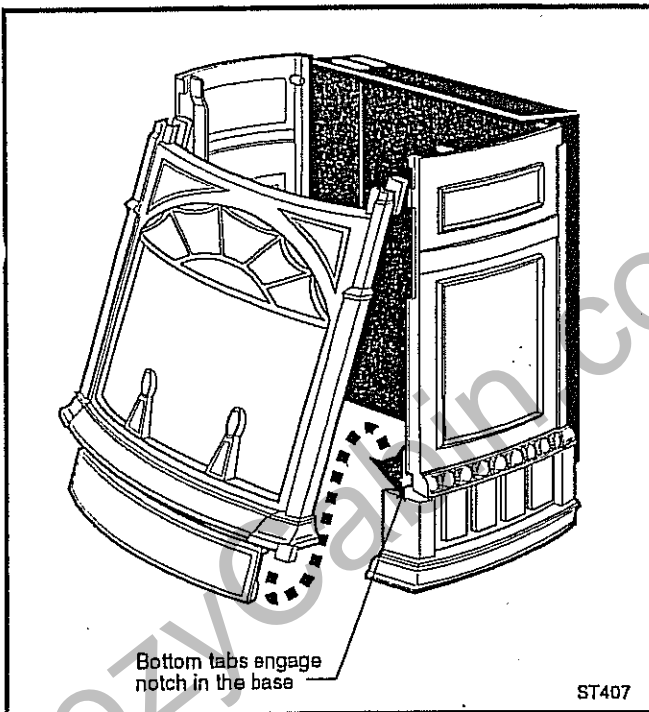

Fig. 60 Install the front plate.
1. Grasp the Front Plate and lift it into position, engaging the two steel tabs at the upper corners behind the adjacent bosses in the Side Plates. (Fig. 60) Seat the Front against the Sides so that the tabs at the bottom lip engage with the notches in the edge of the stove base.